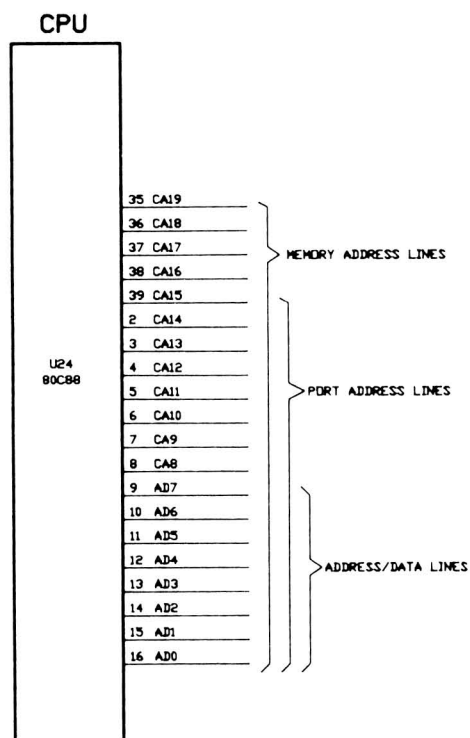

Figure 13-3. Address Line Organization
**Address Signals** — Twenty address lines make up the address bus allowing the CPU to address one megabyte of memory. Sixteen of the twenty address lines provide access to the input/output ports. The eight low order address lines provide both address and data information by sharing multiplexed signals. Refer to Figure 13-3.